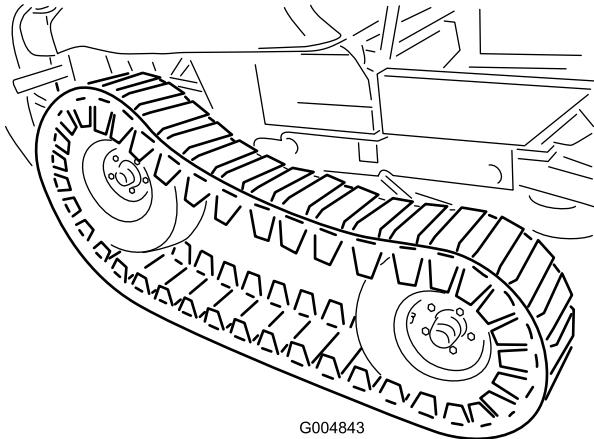

Figure 55
20. Adjust the floor jack to a suitable height to install the front tire. With a helper, lift the front of the track enough to carefully install the front tires (Figure 55).